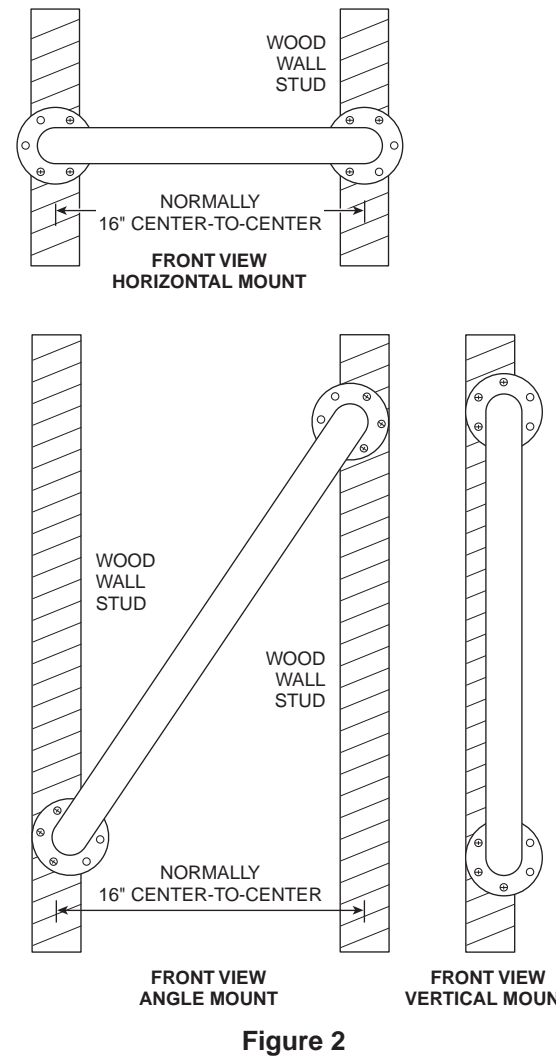

Figure 2
Grab Bar may be installed vertically, horizontally or at an angle, so long as at least two (2) of the three (3) mounting screws on both ends of the Grab Bar are secured into a wall stud (see Figure 2). Locate the wall studs behind the wall before beginning installation (a stud finder can be obtained from a hardware store).